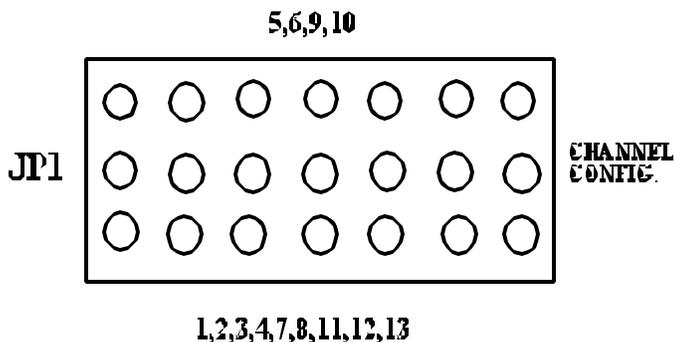

Figure 1. ASM Card Jumper Block
6. On both the operational and spare ASC, set the backup channel configuration using the seven jumpers on JP1. Using all seven jumpers, move the jumpers to the side of the block listing the number of output channels for your site configuration, the center row of pins being common. (Example: Using **Figure 1** as a reference, if your site configuration had 5, 6, 9, or 10 channels, each jumper would connect from the center row of pins to the top row of pins. If your site